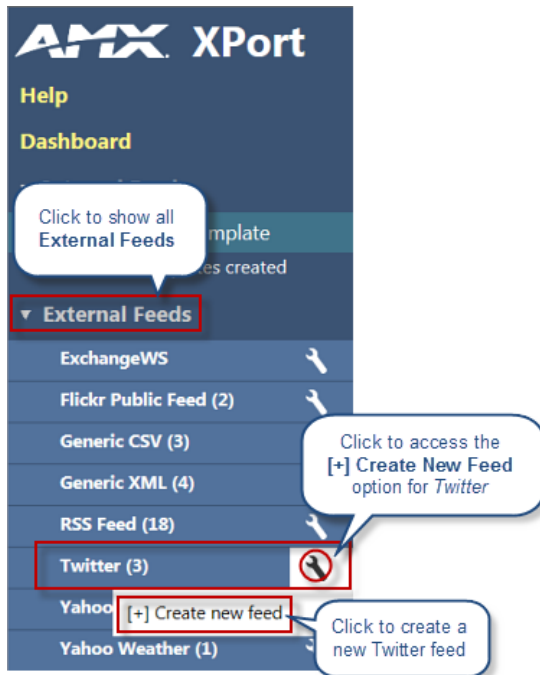

FIG. 179 XPort Dashboard page > External Feeds > Twitter **[+] Create New Feed**
1. In the XPort Server's Dashboard page under *External Feeds*, hover the cursor over the **Twitter** configuration icon to access the **[+] Create New Feed** option (FIG. 179):